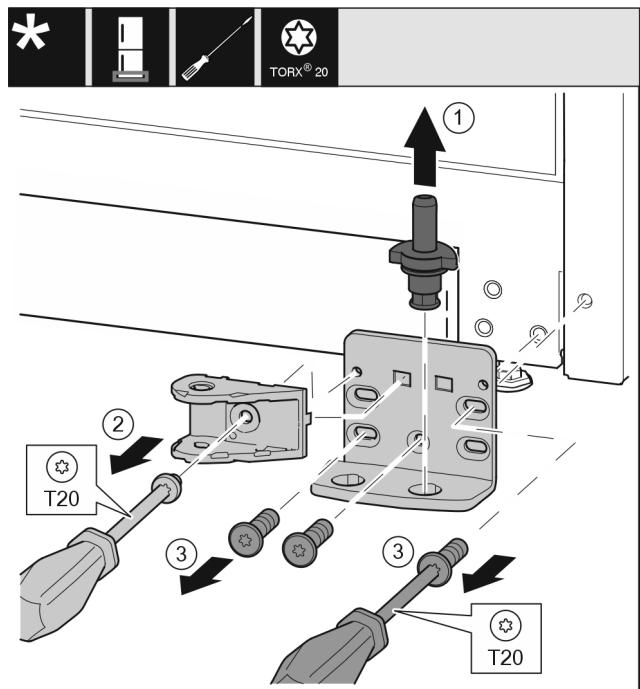

Fig. 32
- Lift the bearing pin completely upward and remove it. *Fig. 32 (1)*
- Remove the screw with the T20 screwdriver and take off the soft close connection. *Fig. 32 (2)*
- Remove the screws with the T20 screwdriver and take off the bearing bracket. *Fig. 32 (3)*